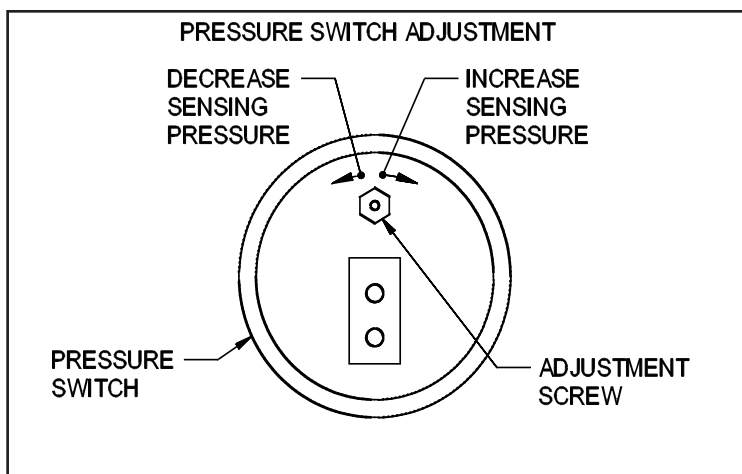

Figure 6
3. Rotate the adjustment screw an additional  $\frac{1}{4}$  turn counterclockwise to ensure proper switch setting. (See Figure 6)